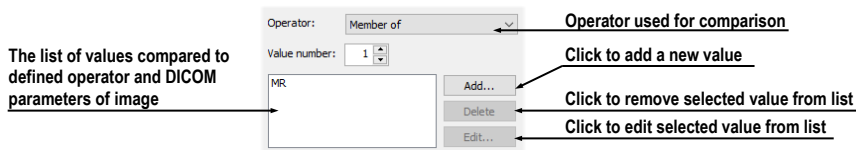

Figure 200 – DICOM criteria set dialog
4. Define the allowed values for the specified DICOM tag (see Figure 200):